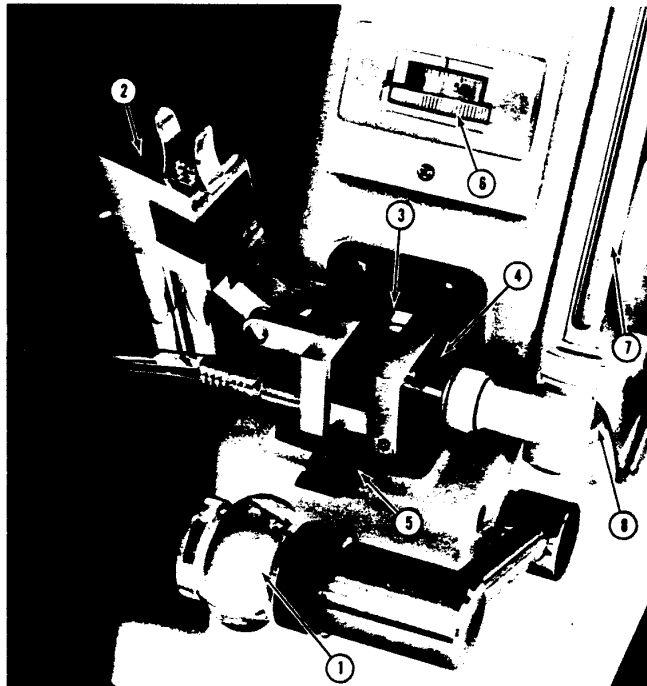

Figure 10.5. ABBE-3L Refractometer. (Courtesy of Spectronic Instruments, Inc., Rochester NY, a Life Sciences International Company).
7. Release the switch to the center position. Look through the eyepiece and note the shadow boundary. Adjust the source arm and rotate the shield for best contrast and definition of the boundary. Refer to Fig. 10.5 to confirm what you should be seeing.